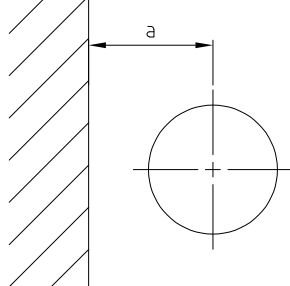

Fig. 7. Minimal mounting distances of surge arresters.
The installation method and tightening torques of screw connections are shown in the drawings "Correct installation of a surge arrester with a line terminal" and "Correct installation of a surge arrester with a disconnector". Figure No. 5 shows an example of installation of a surge arrester equipped with a mounting base and a line terminal. When installing the line terminal, first tighten the press screw item 6 (using a 6 mm Allen key) to a torque of 25 Nm, and then install elements items 2, 3, 5, 9. The tightening torque of the nuts item 5 (19 mm key size) of the line terminal is 50 Nm. Start the installation of the mounting base by screwing the M12 press screw item 7 into the lower electrode of the arrester (using a 6 mm Allen key) to a torque of 30 Nm, and then tighten the mounting base using the M12x25 screw, item 8 (use a 19 mm socket wrench) - tightening torque 50 Nm, previously using washers, items 9 and 10. If the surge arrester is additionally equipped with an insulating base, 3 insulators should be mounted to the mounting base using 3 pcs. M12x20 screws and washers (use a 19 mm socket wrench) - tightening torque 50 Nm. Figure no. 6 shows an example of mounting a surge arrester equipped with a disconnector. First, screw the M12 pressure screw into the upper hole with a torque of 25 Nm, item 8. Mount items 5; 6; 10; 12. Tighten the nut item 12 in this assembly with a torque of 50 Nm. (Carry out the nut assembly operation after connecting the wire from the surge arrester to the protective object). Then screw the screw item 7 into the lower hole of the electrode with a torque of 25 Nm. Then mount the surge arrester on the insulating bracket item 2, then slide the washer item 14 and 11 on to the M12 screw and tighten the nut item 13 with a torque of 30 Nm. Screw the disconnector item 4 to the protruding M12 screw with a torque of 20 Nm. In the lower part of the disconnector there is a screw with an M12 thread, on this screw we attach the washer item 15, the flexible cable with an eyelet connecting the disconnector to the return path structure, the washer item 15 and 10 and tighten it with the nut item 12 with a torque of 20 Nm. On the device assembled in this way, after mounting the mounting base item 3 on the pole structure (for example using the MTMN-G402 mounting tape), it is possible to finally mount the surge arrester with the insulating bracket on the base item 3. To mount the insulating bracket item 2 on the base item 3, the M12 screw item 9 with the washer item 15; 10 and the nut item 12 were used - tighten to a torque of 30 Nm. For the arrester with the disconnector mounted in this way, connect the flexible cable connecting the disconnector to the return path structure. Table 2 shows the recommended minimum distances that should be maintained when mounting the arresters (see Fig. 7). These are the minimum distances between the axes of the surge arresters and between the nearest return path structure.